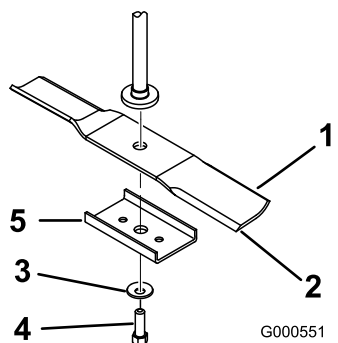

Figure 49
- Remove the blade bolt, the curved washer, the blade stiffener, and the blade from the spindle shaft (Figure 49).
2. Install the blade stiffener, the curved washer (cupped side toward the blade), and the blade bolt (Figure 49).
1. Install the blade onto the spindle shaft (Figure 49).